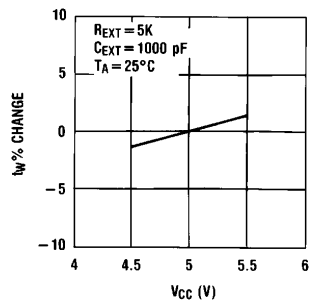
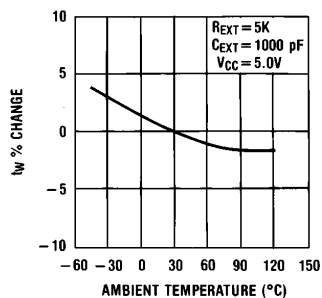

FIGURE 3
FIGURE 4
5. Output pulse width versus V_{CC} and operation temperatures: *Figure 3* depicts the relationship between pulse width variation versus V_{CC} . *Figure 4* depicts pulse width variation versus ambient temperature.